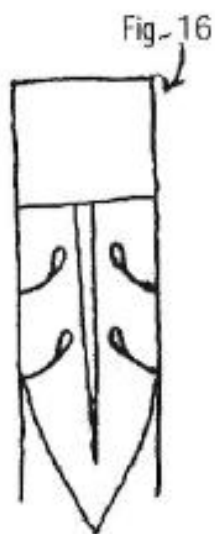

Fig. 16
11. Use tiny teardrop punch and curved chisels to separate lobes of leaf. (Go deeper than you would think). (Fig. 16)